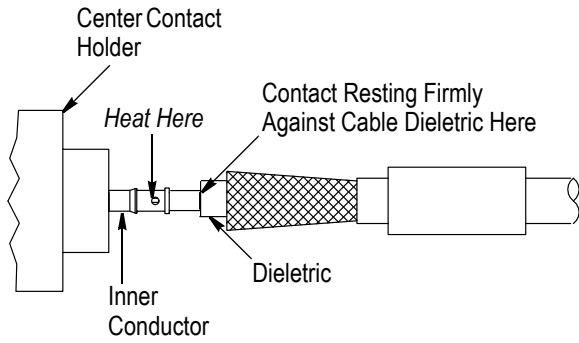

Figure 3
3.2. Solder Center Contact to Cable (Figure 3)
3. Heat the contact and push it over the cable inner conductor so that it rests firmly against the dielectric as shown in Figure 3.